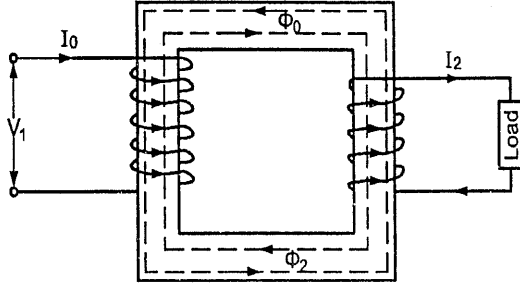

FIG. 3.20(b)
- (2) When the transformer is loaded, a secondary current I_2 flows in the secondary winding as shown in Fig. 3.20(b). This secondary current produces an m.m.f. $N_2 I_2$ which sets up flux ϕ_2 in the core. The flux ϕ_2 opposes the flux ϕ_0 momentarily (Lenz's Law).
- (3) Since ϕ_2 opposes the flux ϕ_0 , therefore the resultant flux tends to decrease and causes the reduction of self induced e.m.f. E_1 .